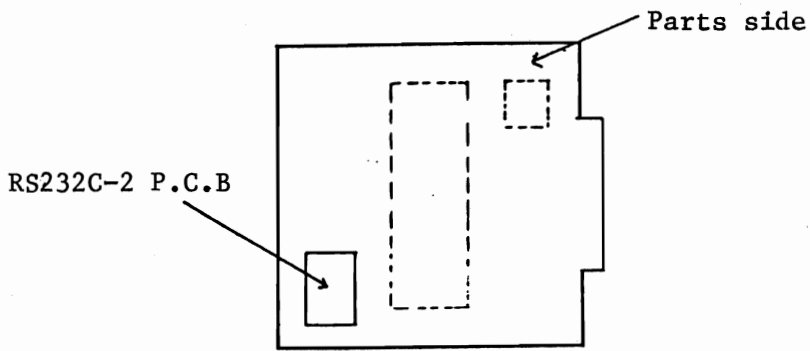

Fig. 4.3.6 CPU+I/O-CONT P.C.B
- ③ As in Fig. 4.3.6, connect RS232C 2 P.C.B. to CPU+I/O-CONT P.C.B while paying attention to the connector. (Fix it using two screws on soldered side of CPU-I/O-CONT P.C.B.)